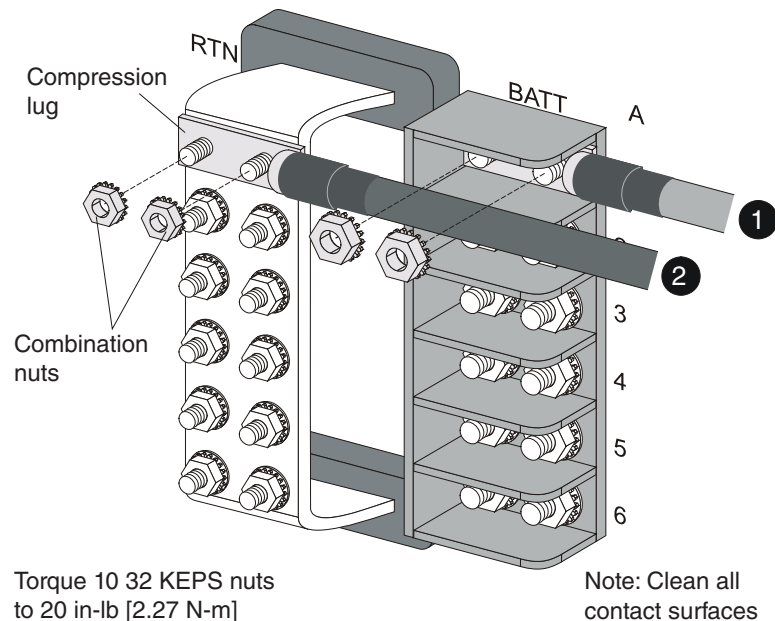

Figure 7 - CB/TFD Output Lug Connections
26. If required, lightly coat anti-oxidant on the lugs and output **BATT** and **RETURN** terminals, and then connect the lugs to the terminals, as shown in Figure 7. (NEC specifies only one lug and load at each output terminal.)